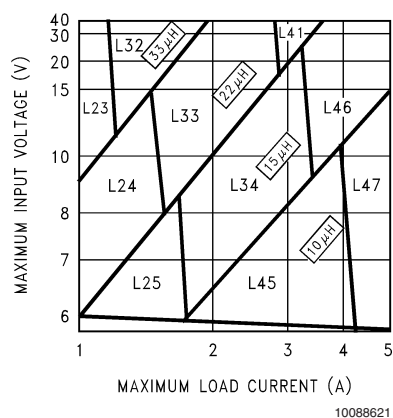
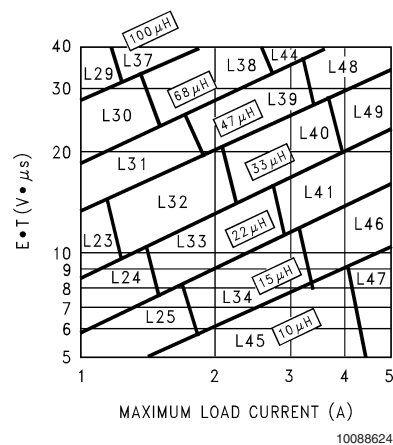

FIGURE 3. LM2678-3.3
FIGURE 6. LM2678-ADJ
Step 3: Determine the inductor required by using one of the four nomographs, *Figure 3* through *Figure 6*. Table 1 provides a specific manufacturer and part number for the inductor.
Step 5: Determine an input capacitor from Table 4 for fixed output voltage applications. Use Table 2 to find the specific capacitor type. For adjustable output circuits select a capacitor from Table 2 with a sufficient working voltage (WV) rating greater than $V_{in\ max}$, and an rms current rating greater than one-half the maximum load current (2 or more capacitors in parallel may be required).
Step 3: Use the nomograph for the 3.3V device, *Figure 3*. The intersection of the 16V horizontal line ($V_{in\ max}$) and the 4A vertical line ($I_{load\ max}$) indicates that L46, a 15 μ H inductor, is required.
Step 3: To use the nomograph for the adjustable device, *Figure 6*, requires a calculation of the inductor Volt•microsecond constant ($E \cdot T$ expressed in $V \cdot \mu s$) from the following formula:
Using *Figure 6*, the intersection of 27V•μS horizontally and the 3.5A vertical line ($I_{load} \max$) indicates that L48, a 47μH inductor, or L49, a 33μH inductor could be used. Either inductor will be suitable, but for this example selecting the larger inductance will result in lower ripple current.
Important Note: When using the adjustable device in low voltage applications (less than 3V output), if the nomograph, *Figure 6*, selects an inductance of 22μH or less, Table 6 does not provide an output capacitor solution. With these conditions the number of output capacitors required for stable operation becomes impractical. It is recommended to use either a 33μH or 47μH inductor and the output capacitors from Table 6.